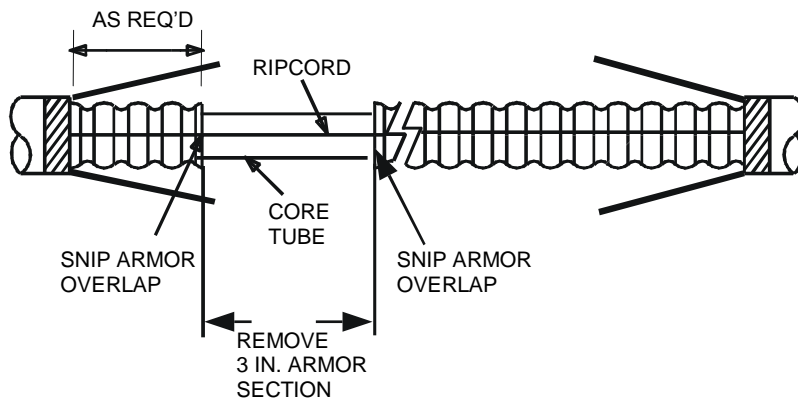

Figure 8 – Remove a 3-inch section of armor to expose the core tube and ripcord.
9. Consult the closure instructions to determine the length of corrugated armor that is required to bond the cable in the closure. Snip the armor overlap at the required length at one end of the cable opening (Figure 8).
11. Snip the armor overlap again about 3 inches away from the first snip (Figure 8).
12. Peel off and remove the 3-inch section of corrugated metal to expose the core tube and ripcord (Figure 8).